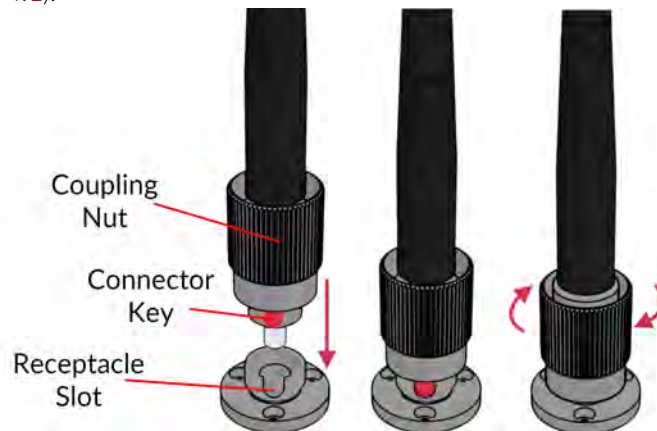

Figure 4.1: FC connector, Fiber Installation
2. With an FC connector, the connector key must be oriented to enter within the receptacle slot to ensure proper connection (Fig. 4.1).